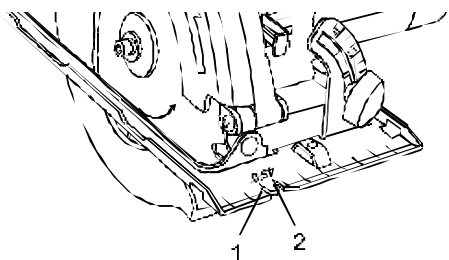

Fig. 8
NOTE: To align the saw blade with the cutting mark, use the guide marks on the front of the sole plate (Fig. 8). Use the 0° line (1) for right angle cuts. Use the 45° mark (2) for 45° bevel cuts. This will allow for the extra material needed for the angle cut. Always make a test cut on a scrap workpiece before cutting the new material.